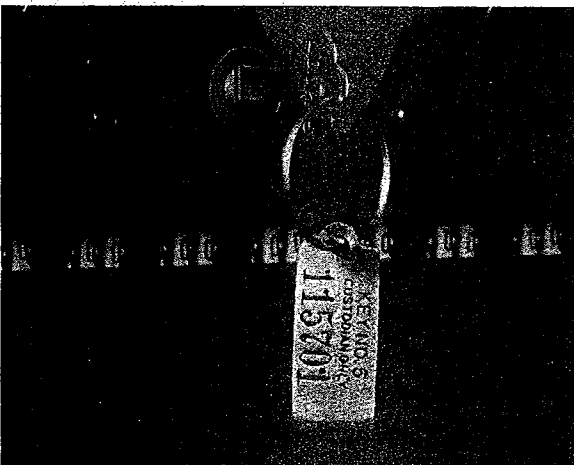

Figure 10. Lock 5 Key in locked position.
6. Insert Key No.5 in Lock 5 and turn the key as far as it will go. (Figure 10)